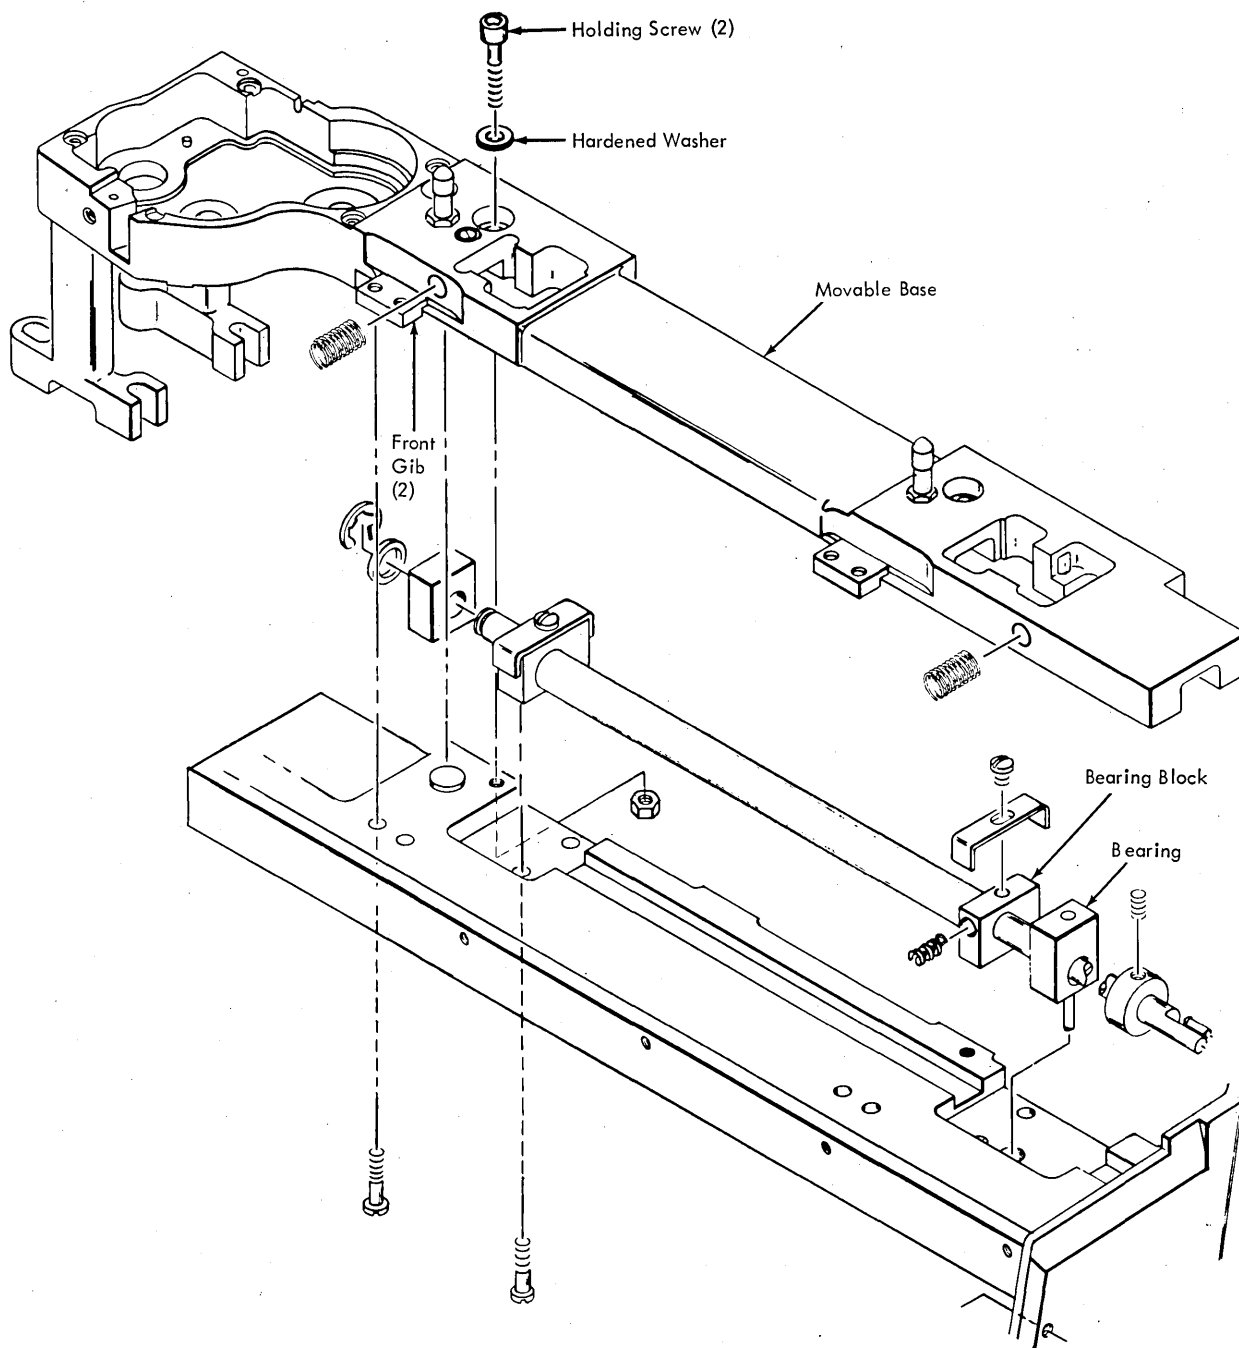

Figure 4-36. Movable Base
7. Remove the two movable-base front gibs (Figure 4-36).
6. Loosen the screws in the collar (Figure 4-36) that hold the right bearing, and slide the collar to the right.